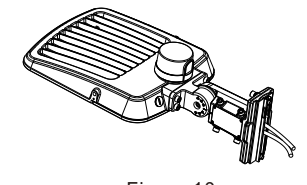

Figure 10
Step 2: Install the bracket on the fixture, then cover the side lid and tighten it (Figure 10).